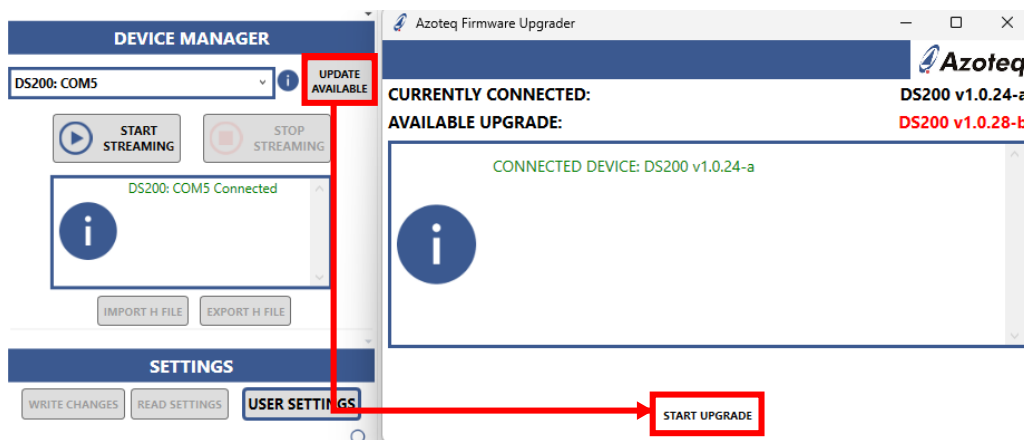

Figure 2.6: DS200 Firmware Upgrade
**Note:** If the connected DS200 device firmware is out of date, an 'Update available' button should automatically appear next to the device enumeration. Click this button to launch the Azoteq firmware upgrade tool and update the firmware, as shown in Figure 2.6.